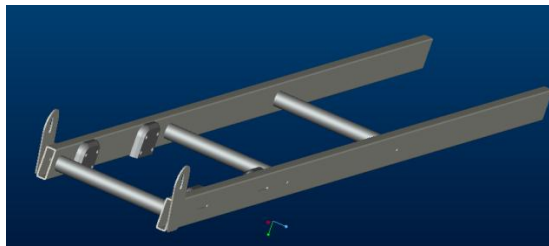
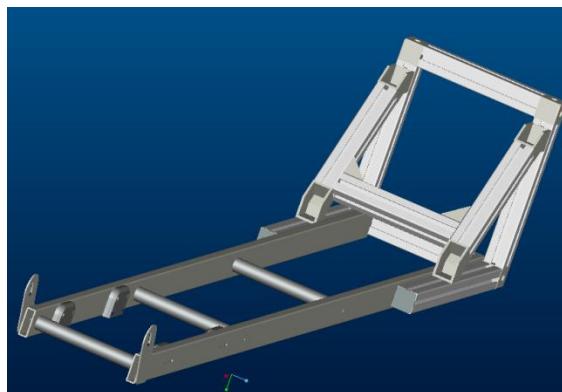

**Fig. 2-2 – Horizontal frame attached to Vertical frame**
**Fig. 2-3 – Particular of the brackets to fix frame B to frame A**
2. Make slide the horizontal frame (B) on the vertical frame (A), and fix B to A applying 4 screws M8x20, attaching them to the 4 brackets and verify that the B is horizontal and parallel as much as possible to the ground surface (see Fig. 2-2 and Fig. 2-3).